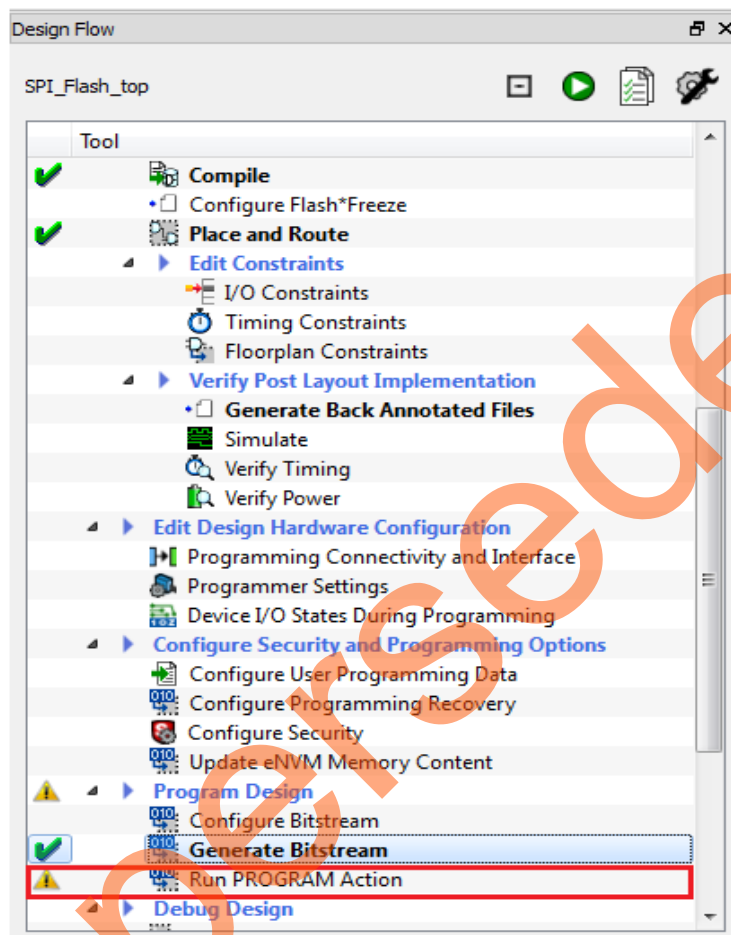

Figure 19 • Run Program Action
5. To program the SmartFusion2 device, double-click **Run PROGRAM Action** in the **Design Flow** window as shown in Figure 19.